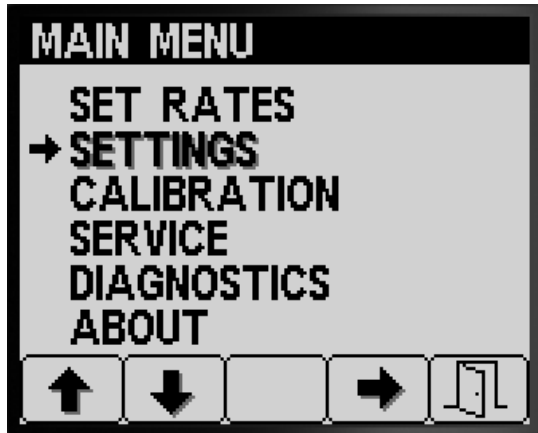

Figure 10
1. To access the SETTINGS screen, press button 2 on the MAIN MENU screen to navigate to the Settings option (Figure 10).
2. Press button 4 to select SETTINGS sub-menu (Figure 10).